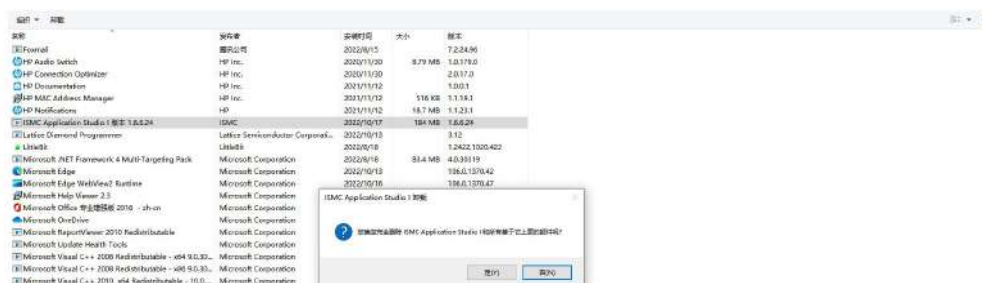

Figure 1-8 Confirm uninstallation
- ② Select the ISMC program and choose "Uninstall" to bring up the uninstallation interface, as shown in Figure 1-8.